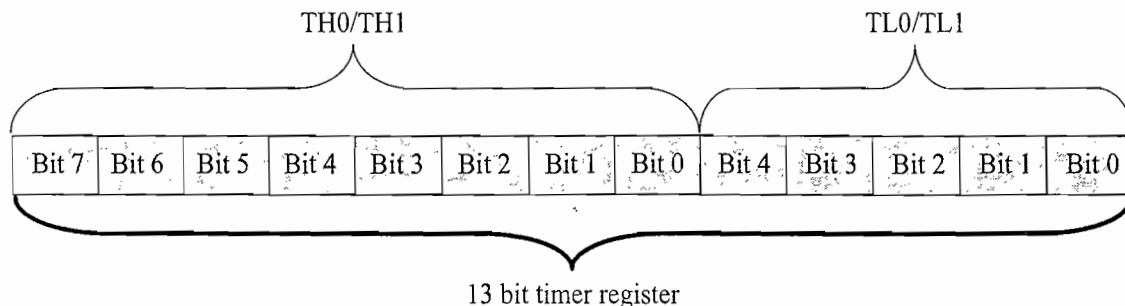

Fig. 5.26 **Timer (Counter) Register for Mode 0**
5.3.8.1 Timer/Counter in Mode 0 Timer/Counter-0 and Timer/Counter-1 in mode 0 acts as a 13bit timer/counter (Fig. 5.26). The 13bit register is formed by all 8 bits of TH0 and the lower 5 bits of TL0 for Timer/Counter-0 (All 8 bits of TH1 and the lower 5 bits of TL1 for Timer/Counter-1). The timer/counter mode selection is done by the bit C/T of the register TMOD. Timer/Counter-0 & Timer/Counter-1 has separate selection bits as described earlier. If Timer/Counter-0 is configured as timer and if the corresponding run control bit for Timer/Counter-0 (TR0 in Timer Control Register (TCON)) is set, registers TL0 & TH0 functions as a 13bit register and starts incrementing from its current value. The timer register is incremented by one on each machine cycle. When the 13bit Timer register rolls over from all 1s to all 0s (FF1FH to 0000H), the corresponding timer overflow flag TF0, present in TCON register is set. If the Timer 0 interrupt is in the enabled state and no other conditions block the Timer 0 interrupt, Timer 0 interrupt is generated and is vectored to its corresponding vector address 000BH. On vectoring the interrupt, the TF0 flag is automatically cleared. Operation of Timer 1 in mode 0 is same as that of Timer 0 except that for Timer 1, the 13bit timer register is formed by the registers TL1 and TH1 and the corresponding Timer run control bit is TR1. The Timer 1 overflow flag is TF1 and the corresponding interrupt vector location for Timer 1 is 001BH. It is advised to set the GATE control bit to 0 for timer operations. If the GATE control is set to 1, the timer register is incremented in accordance with each machine cycle only if the corresponding Interrupt line INTRx is high (INT0 for Timer 0 and INT1 for Timer 1).